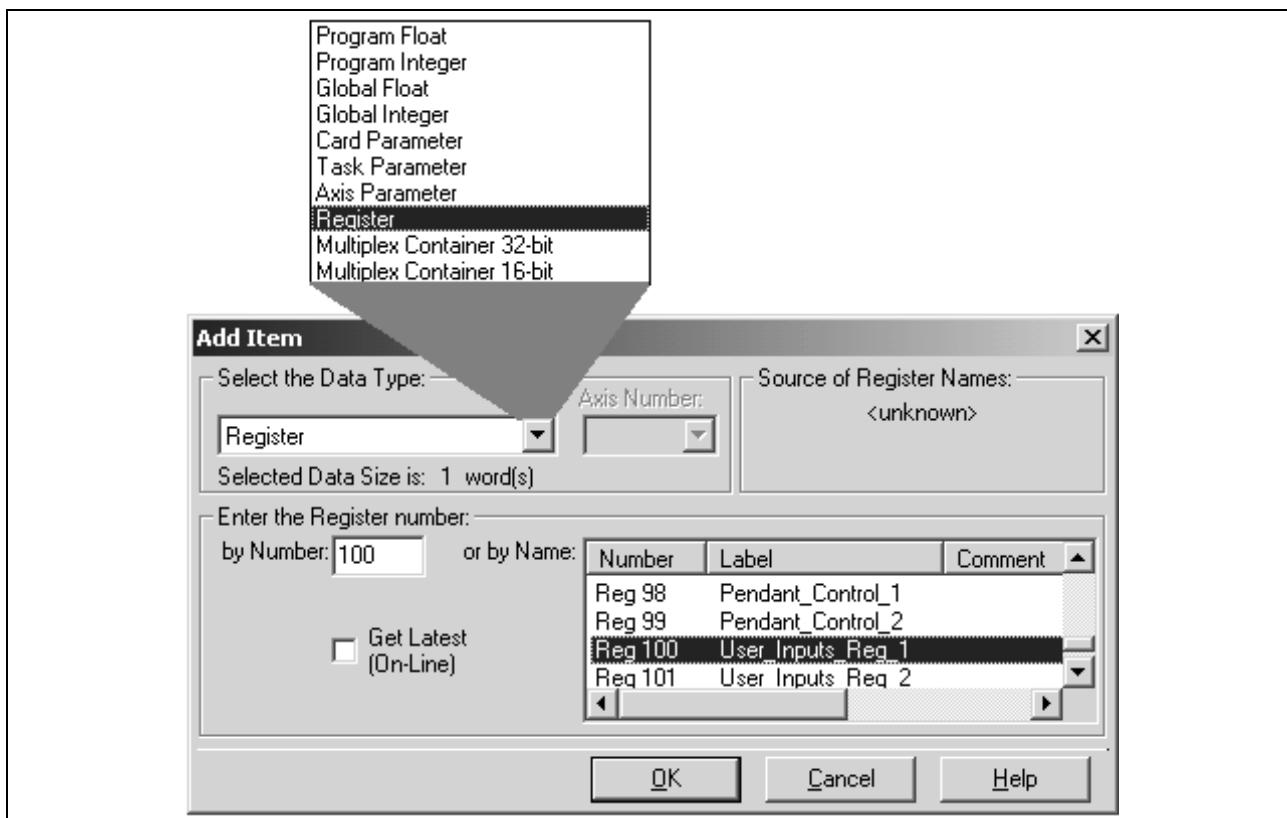

Fig. 8-12: Add Item to Cyclic Data
2. Click Add. The screen in *Fig. 8-12* below appears. Select the Data Type (for example, Register).